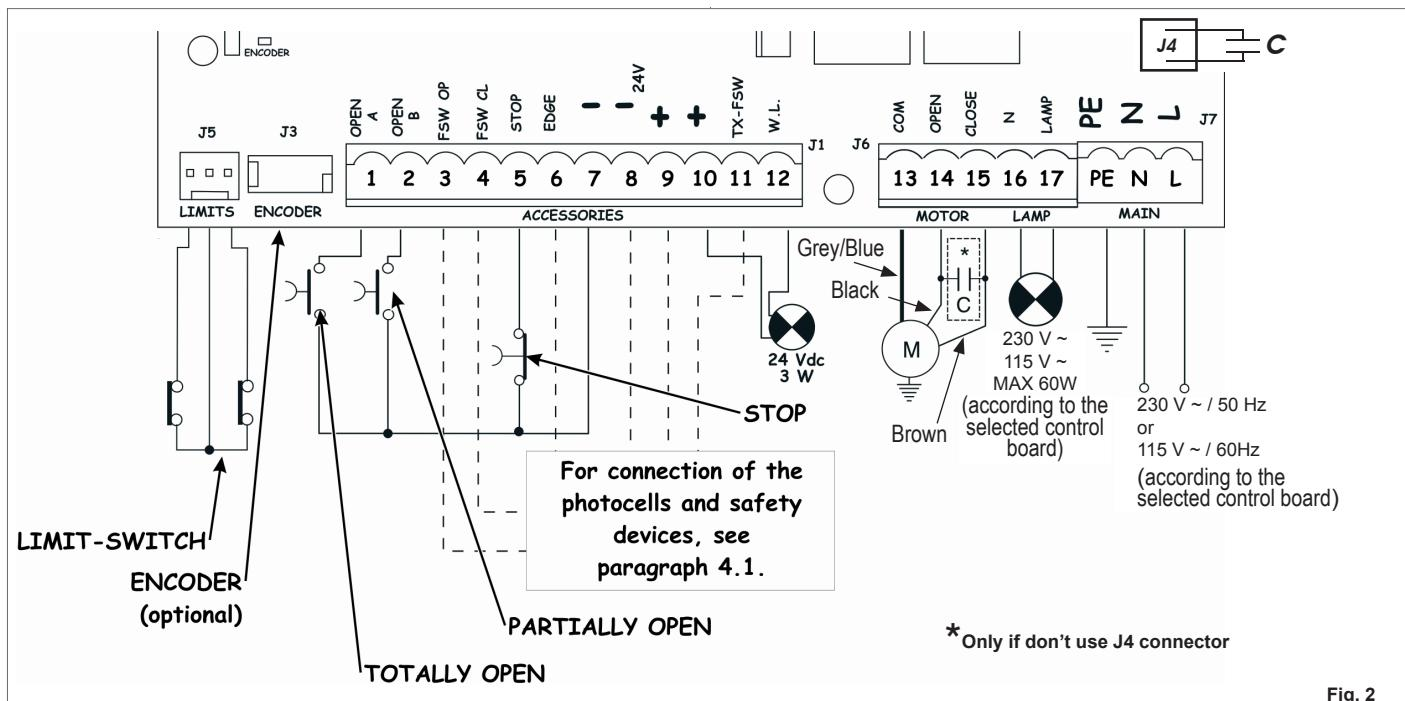

Fig. 2
| 4.2. J7 Terminal board - Power supply (fig. 2) | page.4 |
| 4.3. J6 Terminal board - Motors and flashing lamp (fig. 2) | page.4 |
| 4.4. J1 Terminal board - Accessories (fig. 2) | page.4 |
| 4.6. Connector J6 - Limit-switches rapid connection (fig.2) | page.5 |
| 4.7. Connector J3 - Encoder rapid connection (fig.2) | page.5 |
Connect the earth cable to the appropriate terminal on the J7 connector of the equipment (see fig.2).
4.2. J7 Terminal board - Power supply (fig. 2)
4.3. J6 Terminal board - Motors and flashing lamp (fig. 2)
4.4. J1 Terminal board - Accessories (fig. 2)
4.6. Connector J6 - Limit-switches rapid connection (fig.2)
This input is intended for rapid connection of the opening and closing limit-switches designed to stop the leaf, or for start of decelerations or for braking (see advanced programming in Chpt. 5.2.). In gearmotors with a built-in control unit, this connection is pre-wired as standard (fig. 2). For leaf opening direction, see advanced programming in Chpt 5.2.
4.7. Connector J3 - Encoder rapid connection (fig.2)